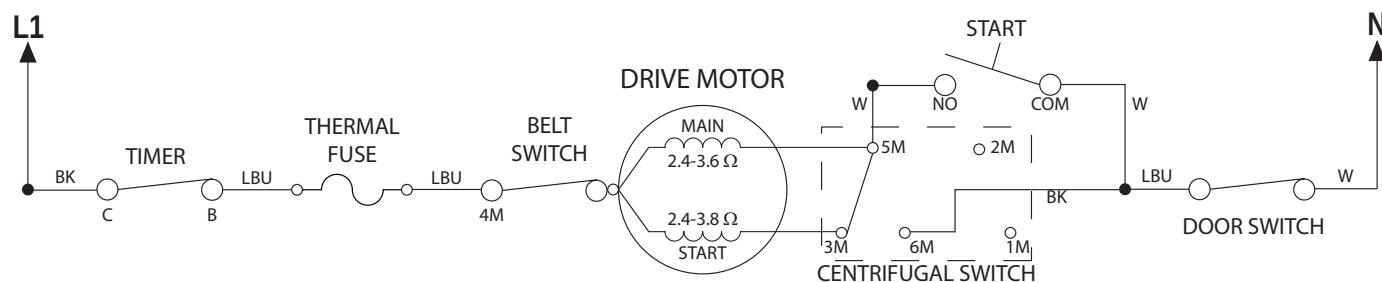

Figure 1 - Motor Strip Circuit
- Check the wiring and components in the motor circuit by referring to the appropriate wiring diagram on pages 4-4 to 4-7 or the Motor Strip Circuit below (see Figure 1).